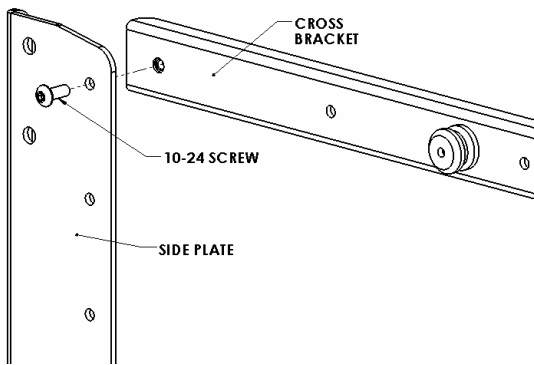
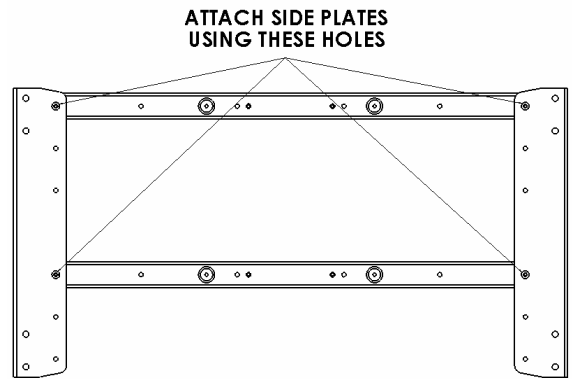

Figure 4
Figure 5
2. **Side Bracket Assembly:** Attach center brackets to side brackets using the 10-24 button head cap screws (see Figure 4 & Figure 5).